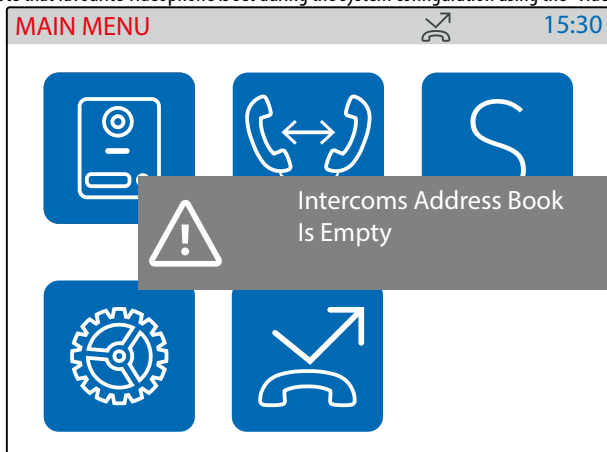

Fig. 47 Empty "Intercoms Address Book"
- By pressing the  button, if the "Intercoms Address Book" is not empty (Fig. 47), will start a intercommunicating call with the favourite intercom*.
* If the panel address book includes one indoor station only, tapping on the icon launches immediately the call to that videophone (Fig. 47 on page 26).